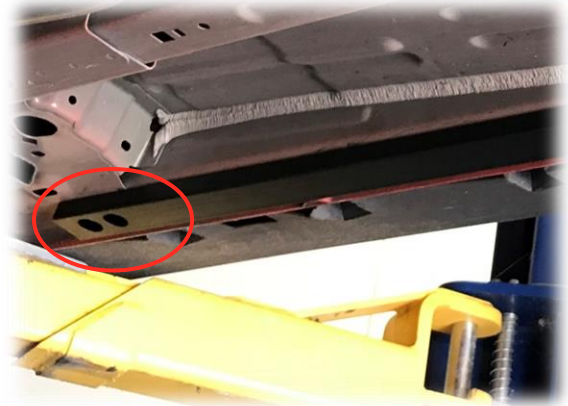

Figure 2: Steeda jacking rail installed
3. Align the Steeda jacking rail so that the 2 closer holes are facing the front of the vehicle as shown in Figure 2.